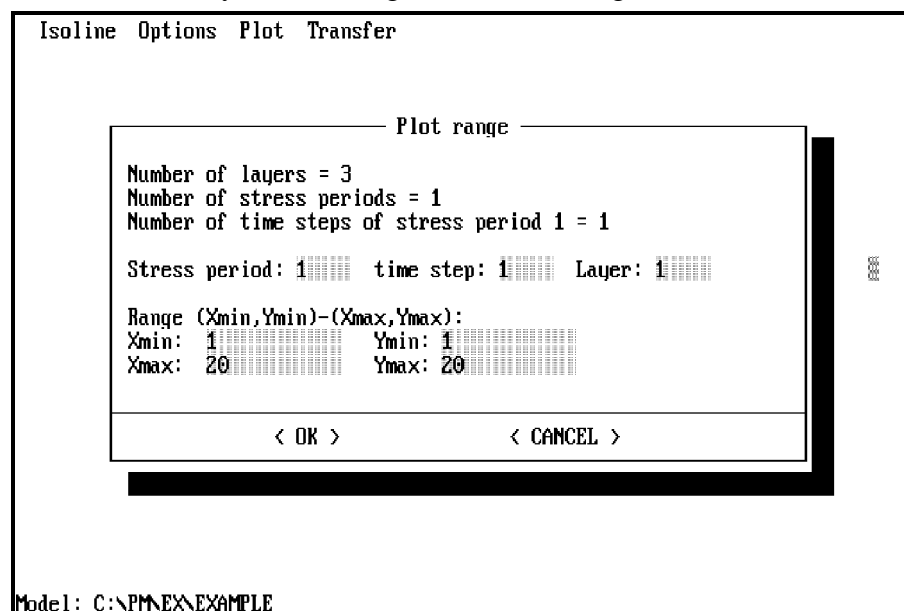

Fig. 6.2: Specification of the range for plotting contours
After selecting this menu item, a dialog box will come up and ask for the time parameters and the range for plotting contours (Fig. 6.2). The user can select the data at the desired step by specifying the number of stress period, time step and layer. The plot range within which the contours will be plotted is defined by the starting and ending column (X) and row (Y) indices. The coordinate system of the grid editor (see Fig. 4.4) will be used for specifying the indices.